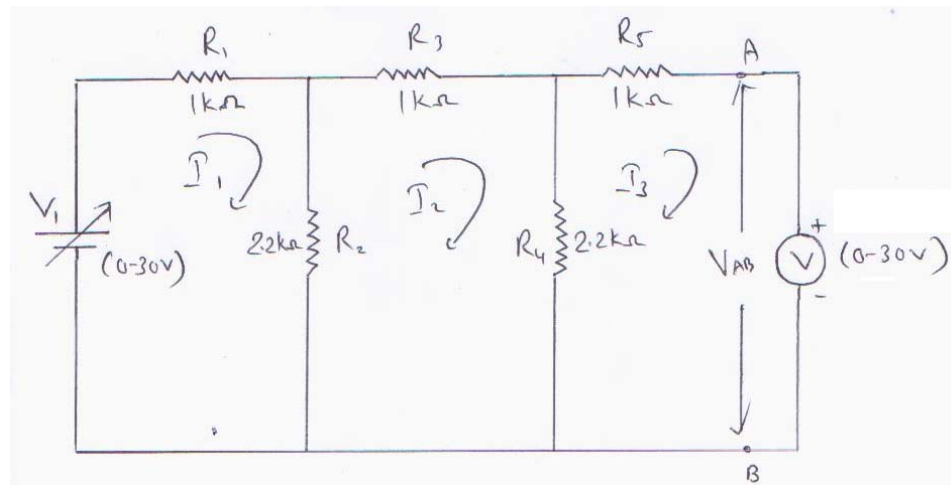

Figure 2.2
3. Now connect the circuit diagram in figure 2.2 in bread board (Removing the load resistor  $R_6$ ).